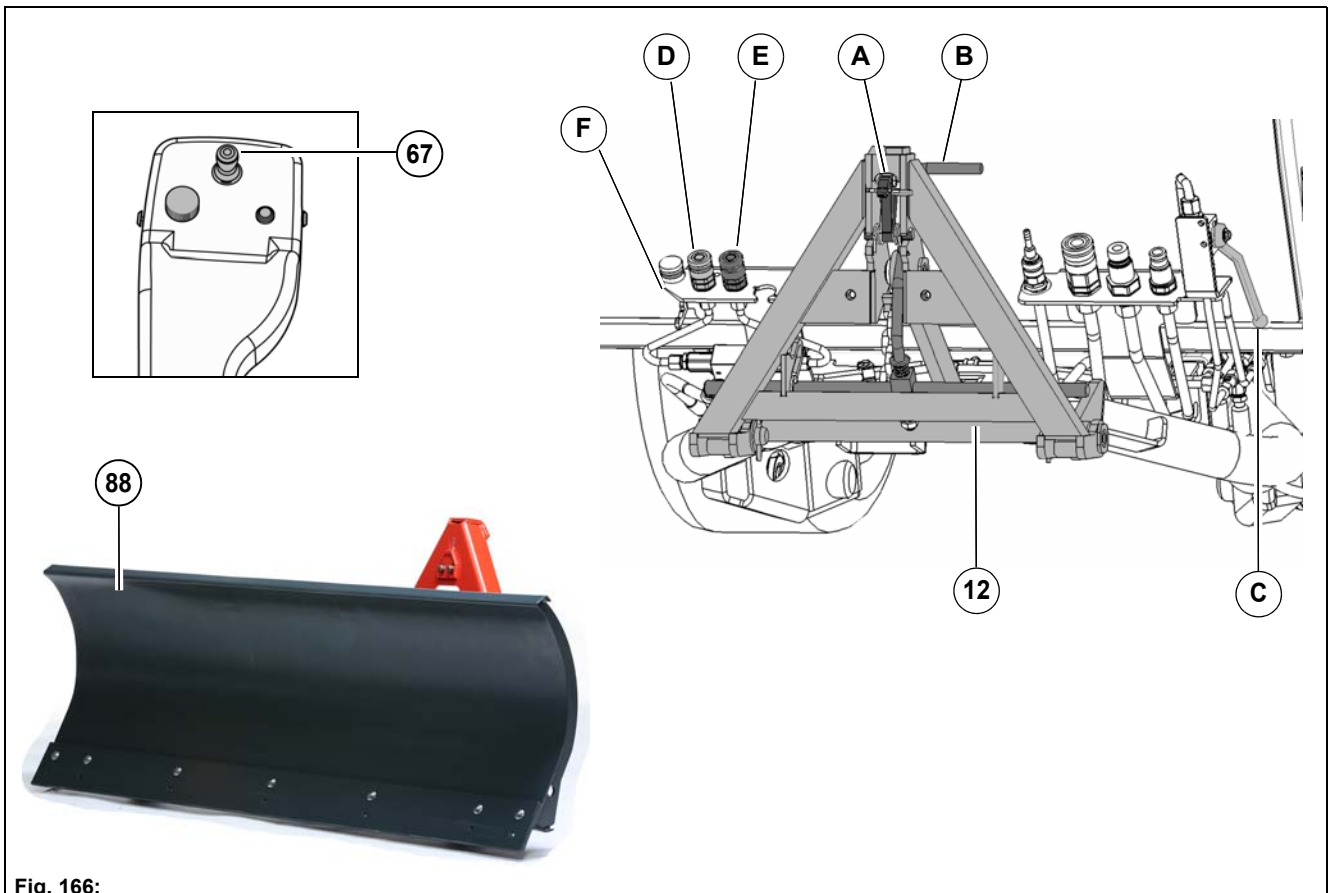

Fig. 166:
2. Unlock the locking hook **Fig. 166-A** and locking rod **Fig. 166-B** on the front tool carrier **Fig. 166-12**.
6. Close the valve **Fig. 166-C** for the suction mouth lift system.
- Swivel snow blade – supply = **Fig. 166-D**
- Swivel snow blade – return = **Fig. 166-E**
- Coding plug X 63 = **Fig. 166-F**